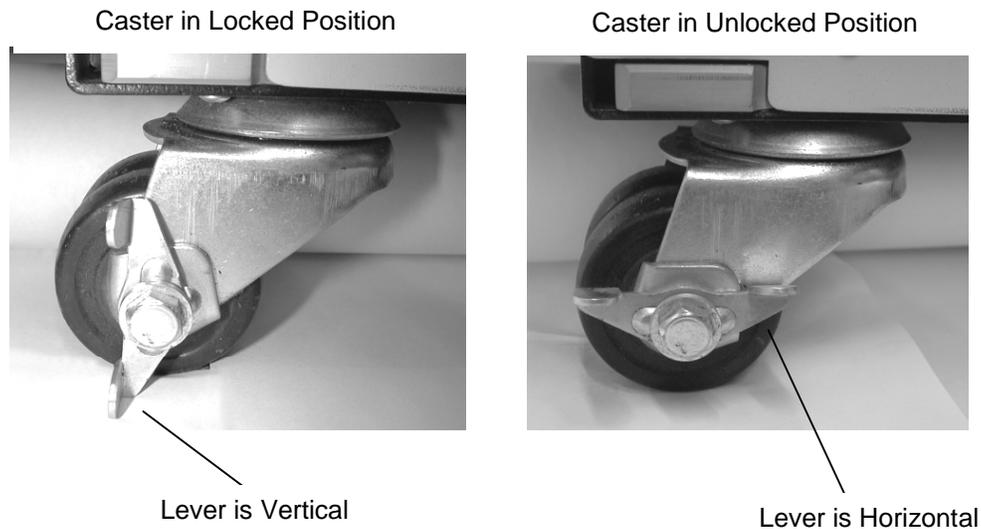

Figure 5-5 Casters on Bottom of TLS
1. A caster is unlocked when the lever on the side of it is in a horizontal position as shown in Figure 5-5.
2. Lock all six casters by turning the lever to a vertical position as shown in Figure 5-5.